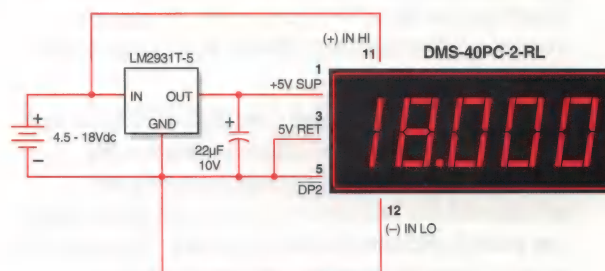

Figure 4. 4.5-18V Power Supply Monitor
**3. Power Supply Monitoring:** One of the most widely used digital panel voltmeter applications is monitoring the output voltage of a system power supply — often the same supply that also powers the meter. The low-power, red LED DMS-40PC-2-RL, with its excellent 0.001Vdc resolution, can be configured to monitor power supplies with outputs in the range of 4.5-18Vdc. The circuit in Figure 4 uses a low-drop-out, three-terminal regulator (LM-2931T-5, in a T0-220 package, available from National Semiconductor) to provide regulated 5V power to the meter.